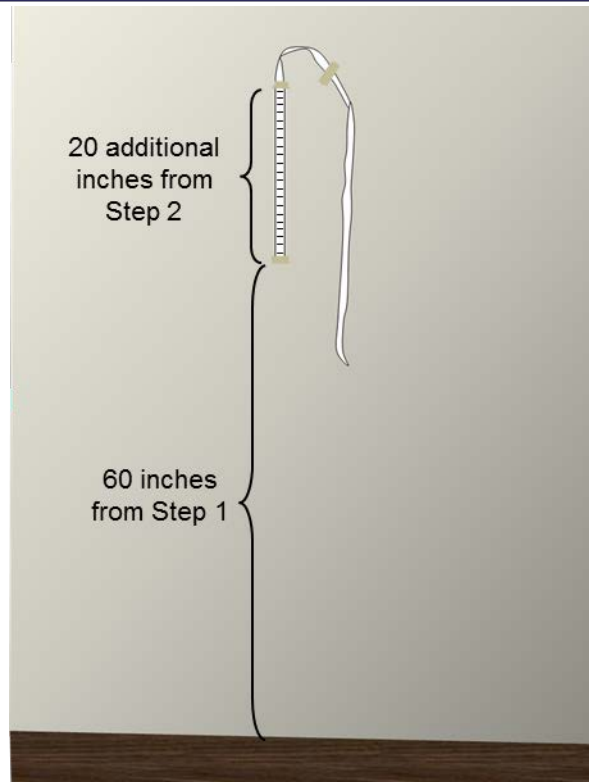

Figure 9: Reference image for tape measure setup.
2. Place the 0 inch end of the tape measure at the 60 inch tape mark and secure the tape measure to the wall so that an additional 20 inches of the tape measure is vertically positioned on the wall (80 inches total). Use masking tape to secure the rest of the tape measure to the wall so that it is out of the way (Figure 9).